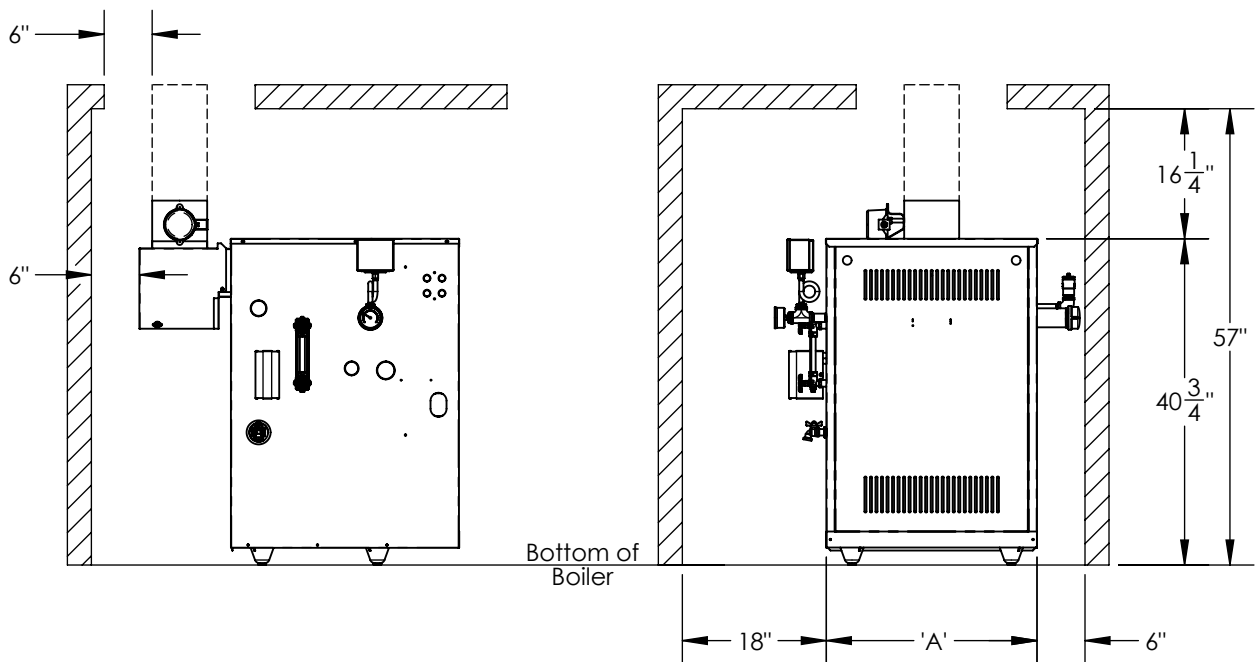

Figure 4-2: Minimum Alcove Clearances
1. Provide clearances between boiler jacket and combustible material in accordance with authority having jurisdiction. Minimum clearances to combustible material shown in Figure 4-2.
- Maintain clearances to vent piping and draft hood per Figure 4-2.
1. Locate boiler as close to chimney as possible. See Figure 4-2 for minimum clearances.
- A. See Figure 3-4 for vent sizes and locations. See Figure 4-2 for clearances.